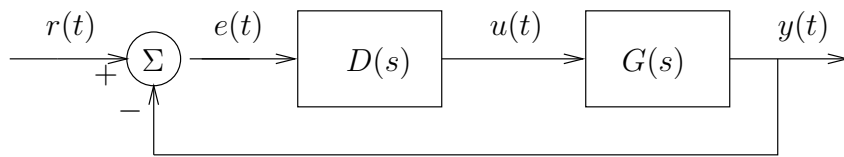
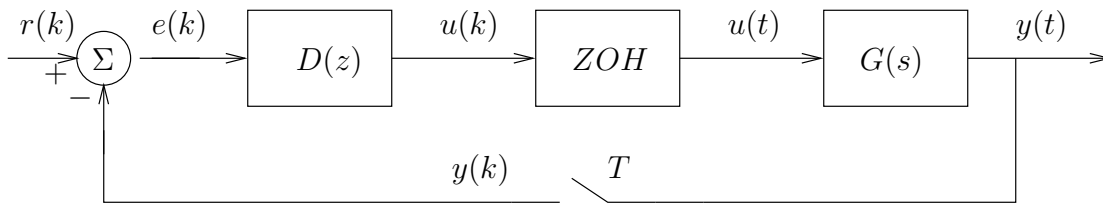

Figure 1: Continuous control loop
Figure 2: Block diagram for digital control loop
- c) The input reference signal  $r(t)$  is to be generated by a digital system that only has a digital output that is either 0 Volts or 5 Volts. To do this you will use a pulse width modulated (PWM) signal on  $r(t)$  to have the system output  $y(t)$  track a desired reference signal  $y_{ref}$ . Experimentally using Matlab, Simulink, or Labview simulations, determine the minimum value,  $T_{min}$ , of the period of the pulses to be modulated, such that the closed loop system of Figure 1 with  $D(s) = \frac{3}{4}$  will “track” the signal:  $y_{ref} = 4 \cdot 1(t)$  without excessive ripple. How does  $\omega_{bw}$  compare with  $T_{min}$ ? Explain.
- f) You have been asked to do a digital control design for the setting shown in Figure 2. Assuming a sampling rate of  $T$ , find the ZOH discrete equivalent  $G_{ZOH}(z)$  system for  $G(s)$ . This represents the discrete transfer function from  $u(k)$  to  $y(k)$ .
g) As we did before in the continuous case, it is decided to try to stabilize the system using proportional control (i.e.,  $D(z) = K$ ). Plot the discrete root locus for the system for  $K > 0$  when  $T = \frac{1}{30}$ . Are there any significant differences between the root locus for the continuous control loop of Figure 1 and the digital control loop of Figure 2? Why?